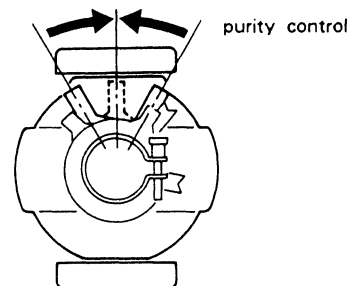

Fig. 3-1
2. Adjust the white balance, convergence and focus coarsely, and then set purity controls to center position as shown in Fig. 3-1.